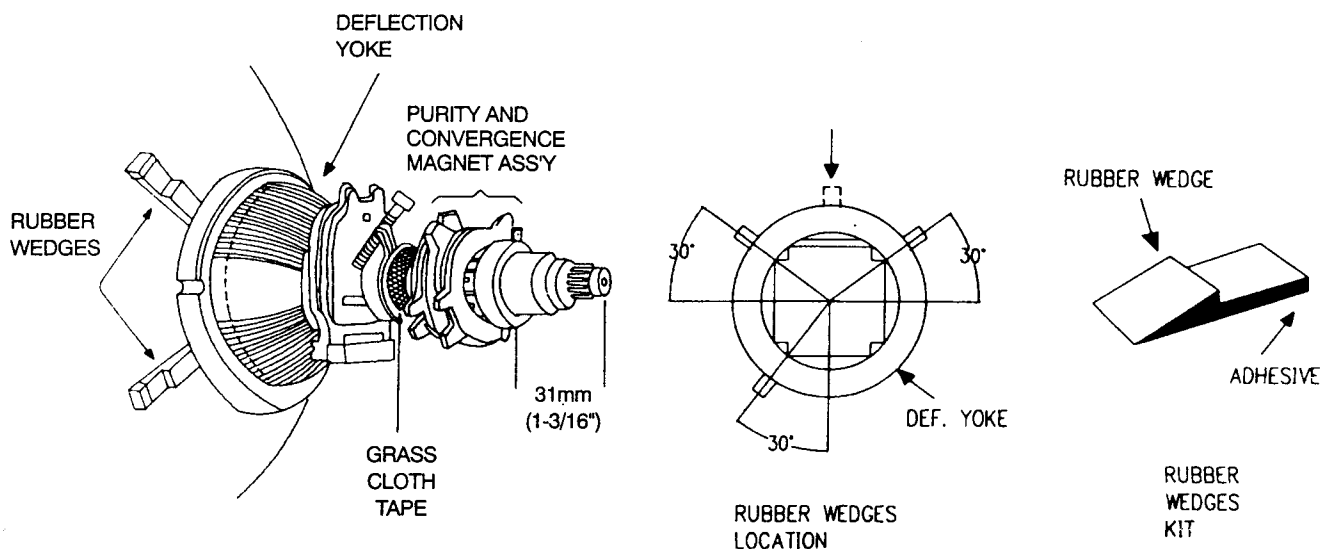

Figure 1 TUBE ASSMEBLY
- b) Put a wedge as shown in Fig. 1 temporarily. (Do not remove the cover paper on adhesive part of the wedge).
- i) Stick 3 adhesive tabs on wedges as shown in Fig. 1.